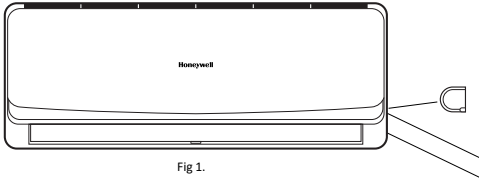

Fig 1.
1. Depending on the position of the unit, the piping may be routed sideways from the left or the right (Fig 1), or vertically from the back (Fig 2) (depending on the pipe length of the indoor unit). In the case of sideways routing, cut off the outlet cutting stock of the opposite side.